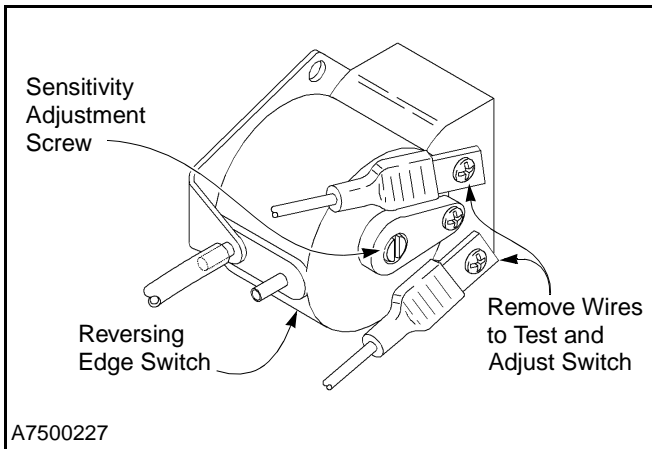

Figure 71
1. Remove the wires from the two contact terminals and attach an ohmmeter across the terminals. (See Figure 71.)